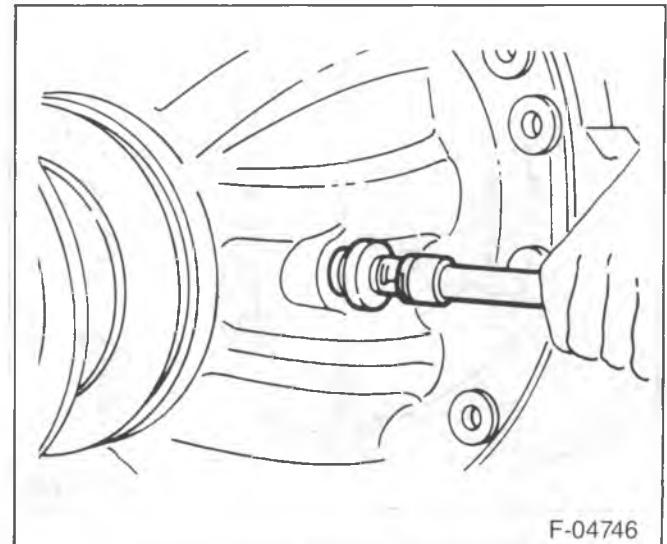

Figure 4 — Loosening the Thrust Adjusting Screw
- Loosen the jam nut (49) and back off the thrust block adjusting screw (48) (figure 4).